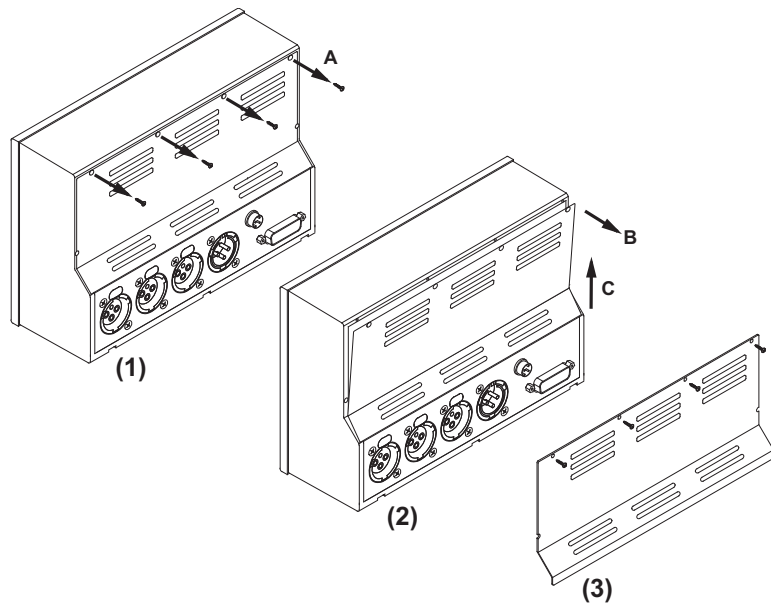

Fig. 8-3: Removing of the backplane cover
3. Loose the four screws on the rear side (upper flange). Open the back-plane cover and remove it. Store screws and metal plate. (Fig. 8-3)
3. Loosen the four screws on the rear side (upper flange). Open the backplane cover and remove it. Store screws and metal plate. (Fig. 8-3)